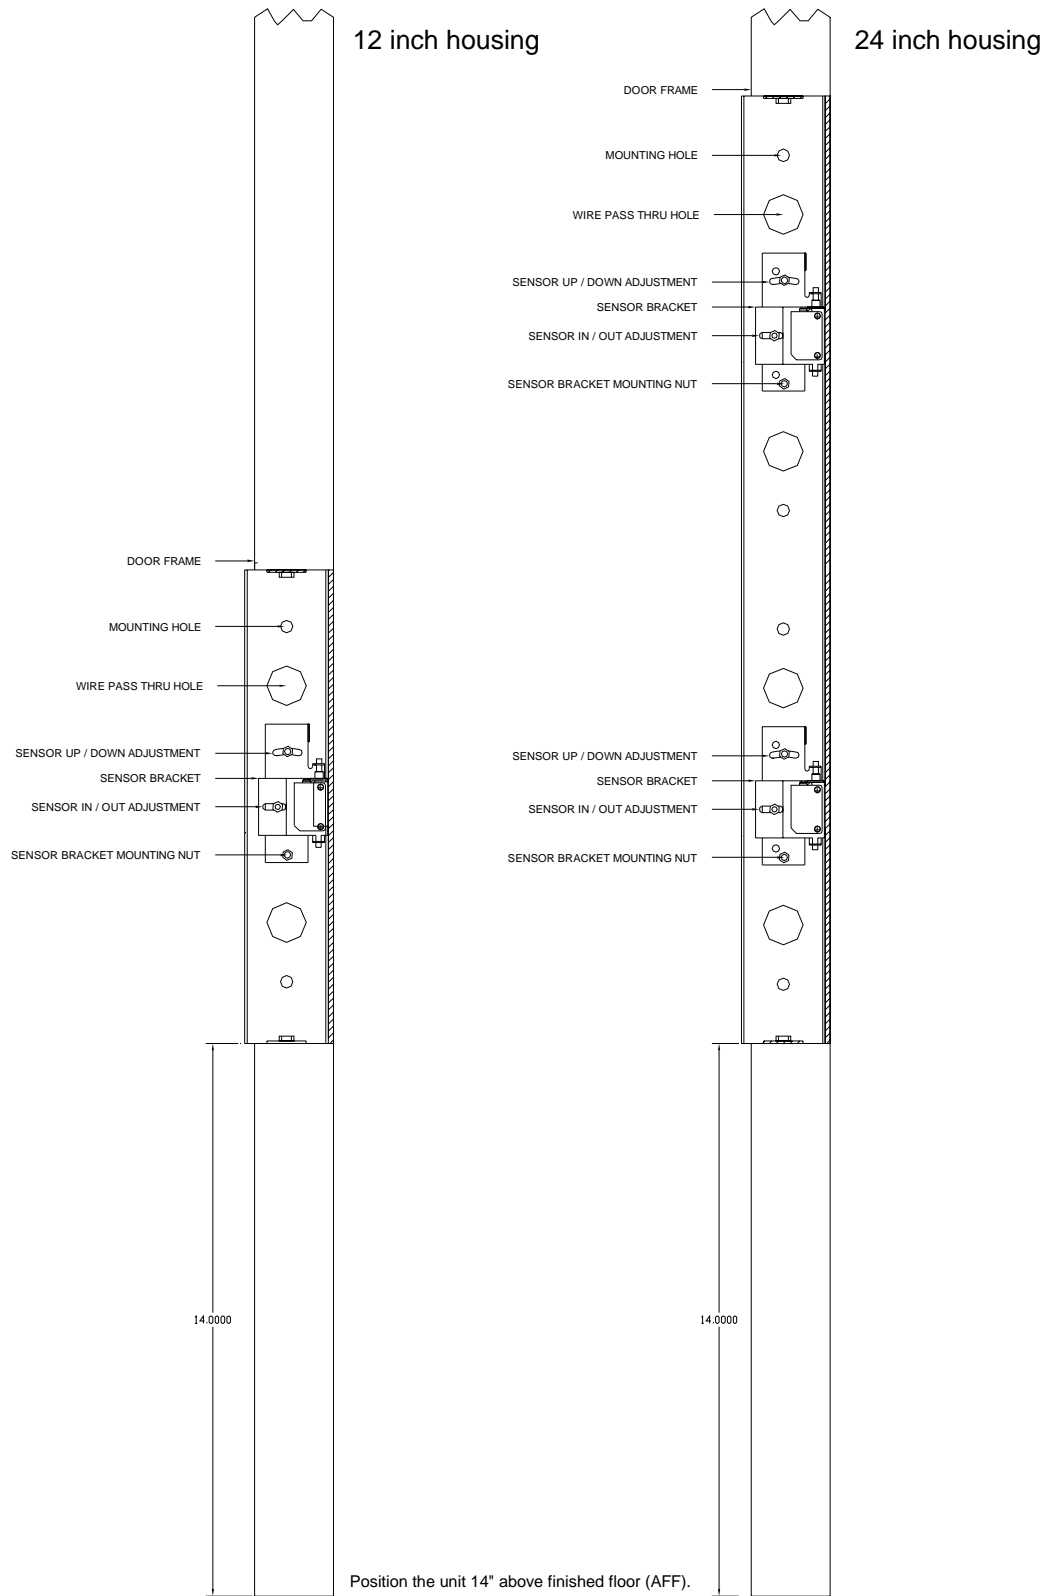

Figure 1
1. Refer to Figure 1 illustrating the 12 and 24 inch housings mounted to the door frame.